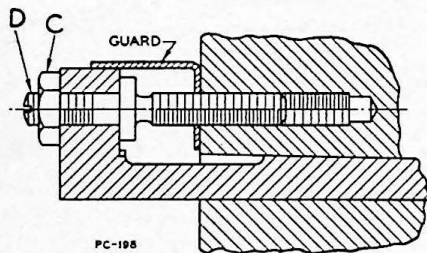

FIGURE 7
Adjusting the Gibs. Two types of gibs, shown in Figs. 7 and 8, are used to take up wear between sliding units of these machines. The amount and method of adjustment, however, is the same for each type.
To adjust a gib of the type shown in Fig. 7, proceed as follows:
1. After removing lead screw as explained, remove table gib. This is a headed type of gib as shown in Figure 7, page 8.